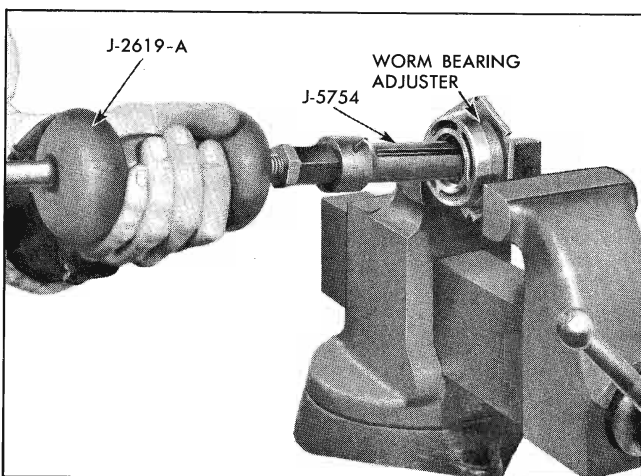

Fig. 9-32 Removing Bearing Cup from Worm Bearing Adjuster
1. Remove lower cup from worm bearing adjuster (Fig. 9-32) using tool J-5754 and J-2619B slide hammer.